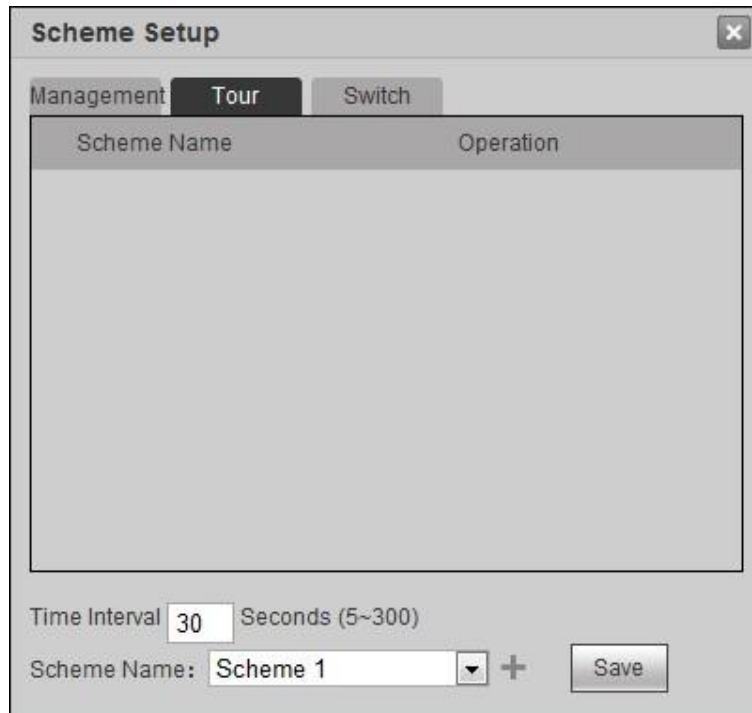

Figure 4-14
Step 1 Select "Tour" tab. The system displays "Tour" interface, as shown in Figure 4-14.